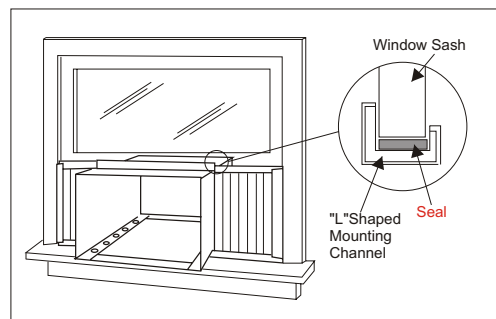

Fig. 11
B. Ensure the "L" shaped mounting channel is positioned in front of the sash. The "U" shaped bottom channel of the cabinet should be positioned in the track provided on the bracket assembly. Pull the window down until it rests just behind the front of the "L" shaped mounting channel. See (Fig. 11).